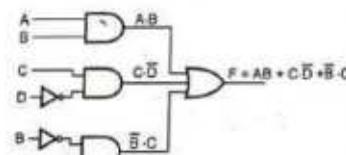

Fig. 4.7.1 Implementation of SOP Boolean expression
- We can implement these product terms by using three 2-input AND gates, as shown in the Fig. 4.7.1.